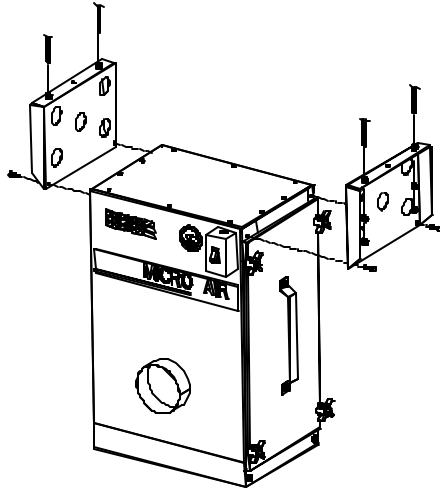

FIG. 3
2. Use the bolts removed in Step 1 to secure the ceiling mount brackets to the unit as shown in FIG. 3.